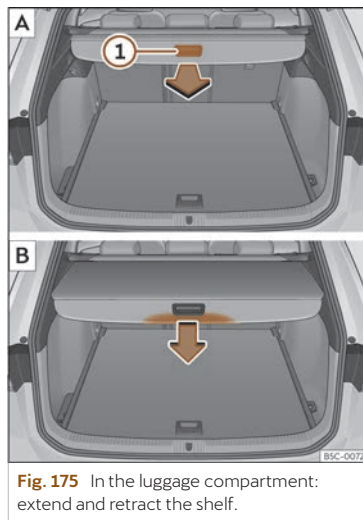

Fig. 175 In the luggage compartment: extend and retract the shelf.
- Pull evenly on the rear shelf using its handle >>> **Fig. 175** ① in a backwards direction until it audibly clicks into place.
- Press on the handle of the rear shelf in the direction of the arrow to release it >>> **Fig. 175** B.